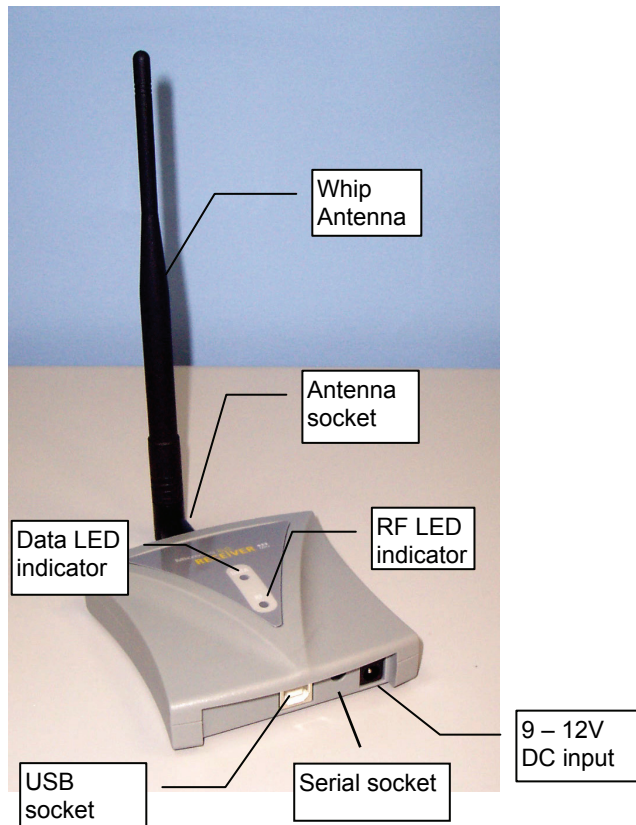

Figure 29: The Receiver layout
Screw the supplied whip antenna to the SMA antenna socket at the top of the Receiver (see Figure 29).
Connect the supplied AC/DC adaptor to the **9-12V DC** input at the bottom of the Receiver (see Figure 29), and then connect it to the mains.
- Connect the stereo phone jack to the **RS-232** socket at the bottom of the receiver (see Figure 29)
- Connect the USB type B rectangular plug of the USB communication cable to the USB input at the bottom of the receiver (see Figure 29)